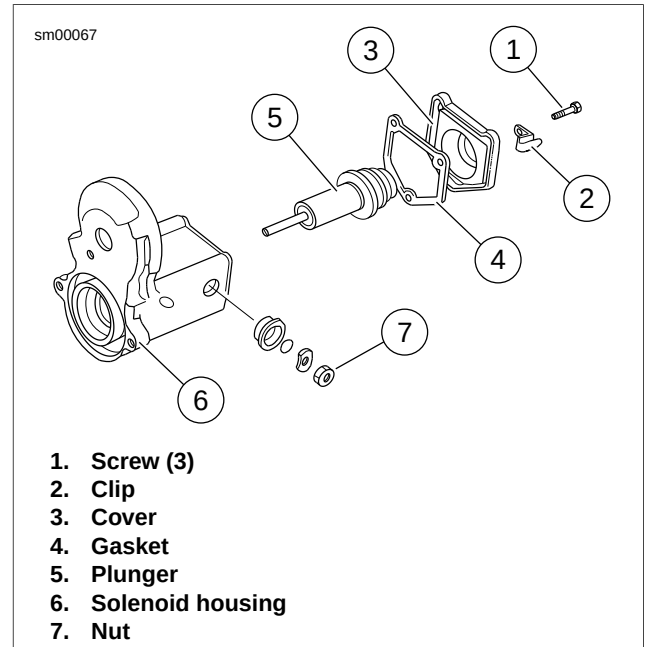

Figure 5-16. Starter Solenoid
See Figure 5-16. Do not tighten nut (7) without removing items (1) through (5). The contact will move and be destroyed.
1. See Figure 5-16. Remove screws (1) and clip (2).
2. Remove cover (3) and gasket (4). Discard gasket.
3. Remove plunger (5) from solenoid housing (6).
1. See Figure 5-16. Replace wire connection hardware as necessary.
2. Apply a light coat of LUBRIPLATE 110 to plunger shaft. Install plunger (5) in solenoid housing (6).
3. Install **new** gasket (4) onto cover (3).
4. Position cover with gasket onto solenoid housing. Install clip (2) and screws (1).